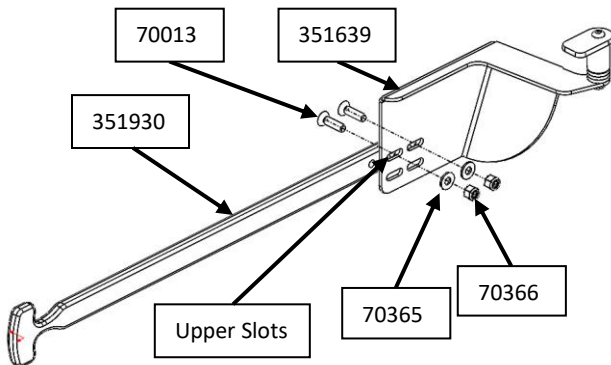
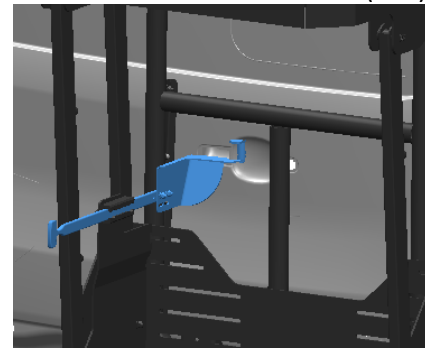

Figure 36: Door Handle Adapter Installation
Figure 37: Handle Slide Installed
28. Using 1x Transit Handle Adapter Assembly (351639), 1x Slide Handle (351930), 2x Countersunk 1/4" bolts (70013), 2x Nylock nuts (70365), and 2x 1/4" washers (70366), slide the slide handle through the plastic slide housing on the lower tray as shown in Figure 3. Hook the aluminum spacer under the vehicle door handle and attach the bracket to the slide handle as shown in Figure 36 & Figure 37.